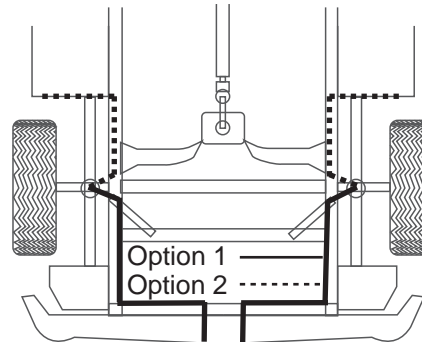

fig. 12
6. Route the air line along the frame to the air fitting on the air spring (Fig. 12). Keep AT LEAST 6" of clearance between the air line and heat sources, such as the exhaust pipes, muffler, or catalytic converter. Avoid sharp bends and edges. Use the plastic tie straps to secure the air line to fixed, non-moving points along the chassis. Be sure that the tie straps are tight, but do not pinch the air line. Leave at least 2" of slack to allow for any movement that might pull on the air line.